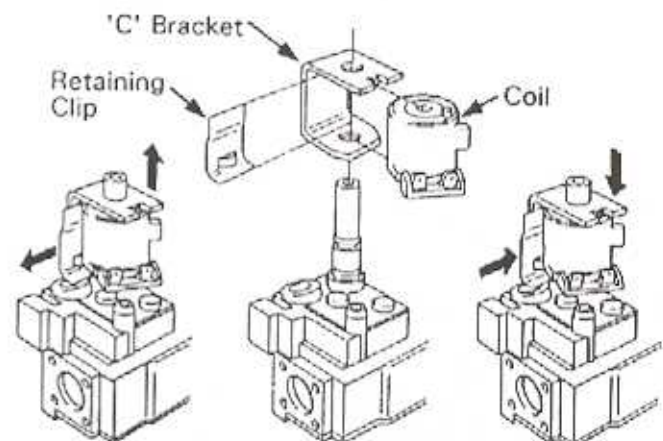

Fig.32
- 8.13.1 Solenoid (Fig.32)
- 8.13.4 Pull off the 'C' bracket and coil assembly see fig.32.